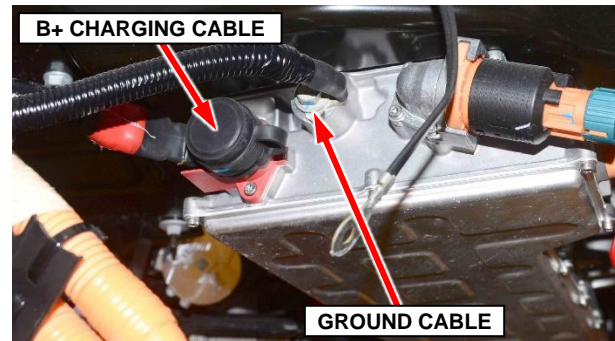

Figure 43 – IDCM Charging Cables
- 64. Open the protective cover and loosen the captured nut that secures the B+ charging cable to the Integrated Dual Charge Module (IDCM) (Figure 43).
- 65. Remove the bolt securing the ground cable to the IDCM (Figure 43).